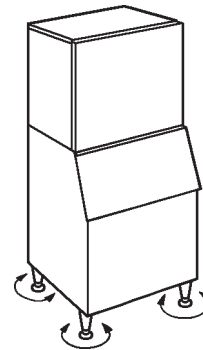

Fig. 4
- 7) Adjust the four legs on the bottom (adjustable from 0 to 25.4 mm) to have the icemaker perfectly horizontal. Use the spirit level. See Fig. 4.